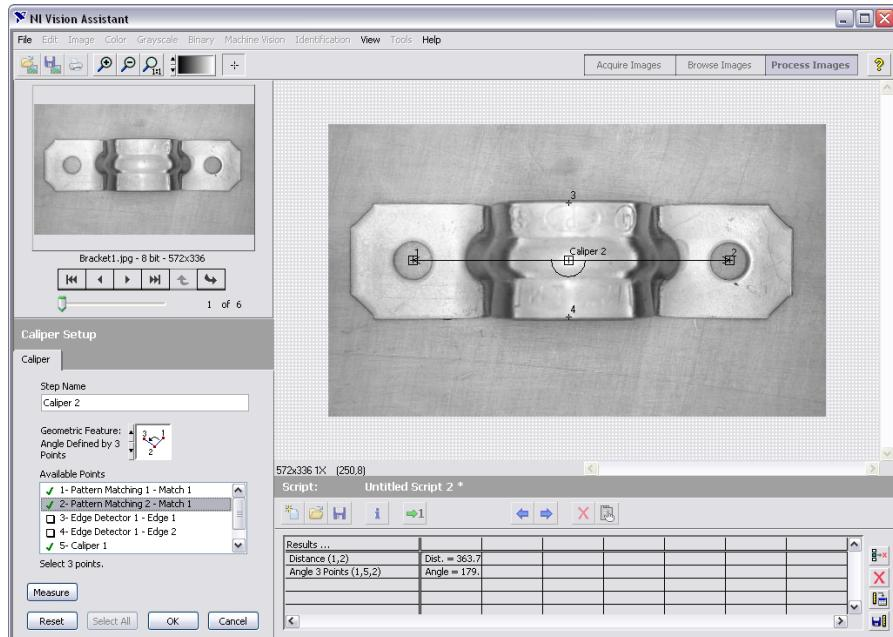

Figure 4-8. Using the Caliper Tool to Collect Measurements
10. Select **Angle Defined by 3 Points** in the **Geometric Feature** listbox. Click points **1**, **5**, and **2**, in this order, to find the next measurement—Bracket Angle—which measures the angle of the bracket arms with respect to a vertex at point **5**, as shown in Figure 4-8.
Figure 4-8 shows the image with Bracket Distance and Bracket Angle selected on the image and displayed in the results table.